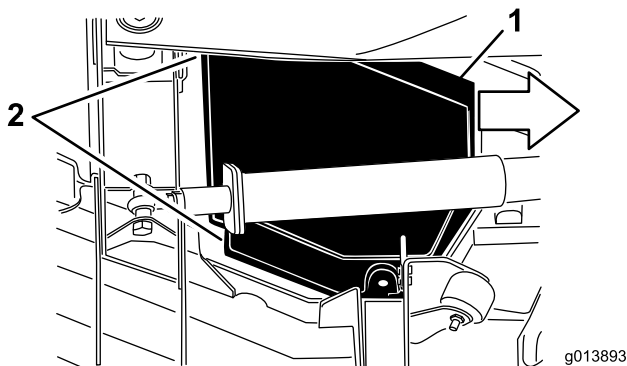

Figure 47
5. While lifting the cover, slide it toward the traction unit, approximately 1 inch, to disengage the outer cover edge from the deck (Figure 47).